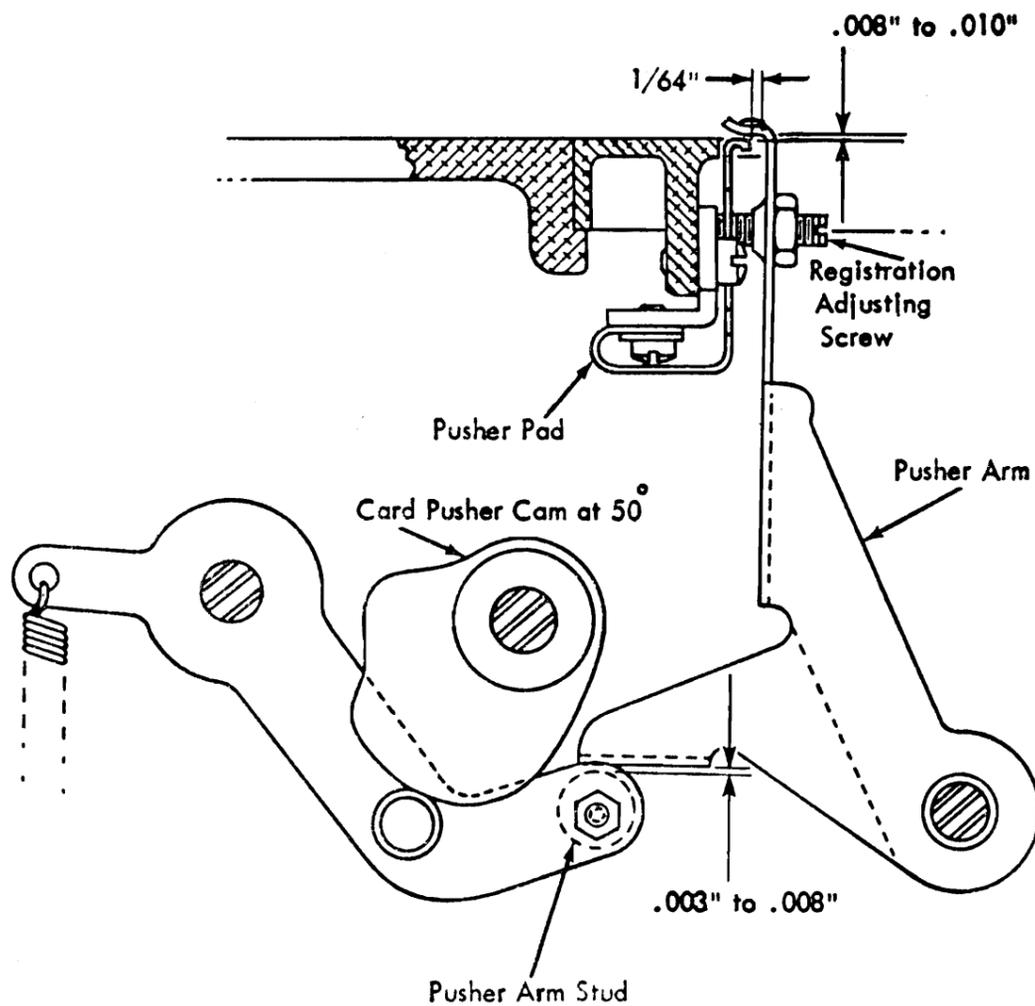

Figure 1. Card Registration Adjustment
**Card Registration Adjustment (Figure 1)**